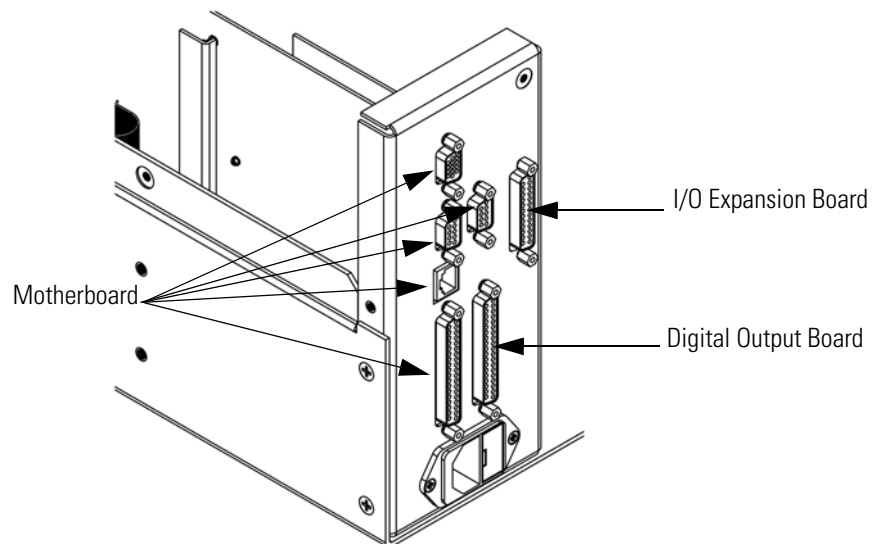

Figure 7-21. Rear Panel Board Connectors
3. Remove the two standoffs holding the I/O expansion board connector to the rear panel (Figure 7-21).
4. Using the nut driver, remove the two standoffs securing the board to the rear panel (Figure 7-21).